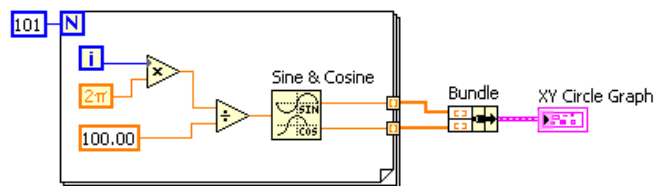

Figure 7.26
1. Build the block diagram shown in Figure 7.26.